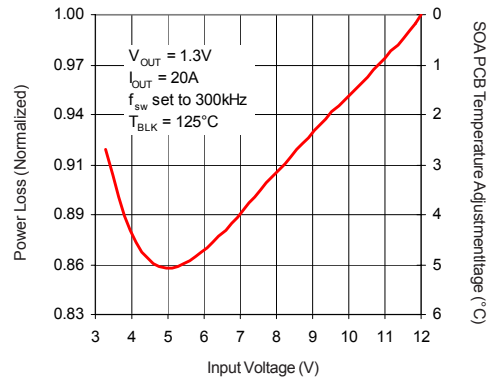

Fig 4. Normalized Power Loss vs V_{IN}
- (Fig. 4) Normalized power loss for input voltage ≈ 0.89
- (Fig. 4) Normalized SOA PCB Temperature for input voltage ≈ 4°C